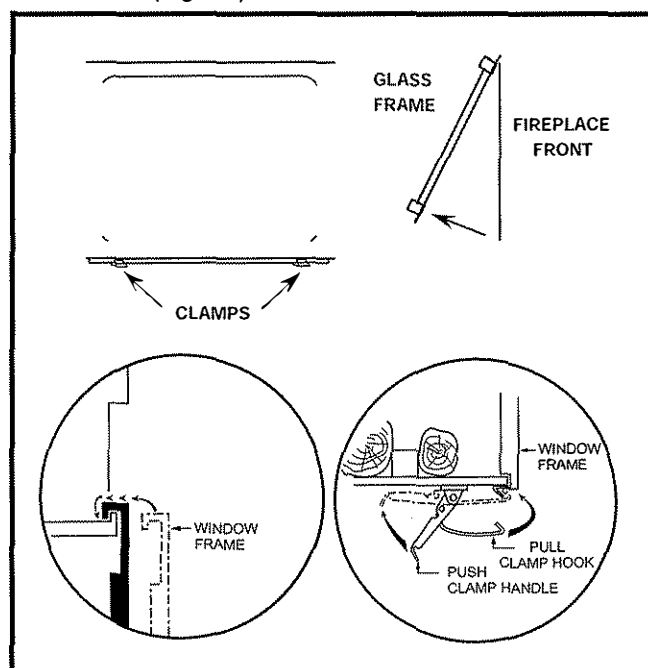

Fig. 36
7. To reinstall glass follow the above procedure in reverse. (Fig. 36)